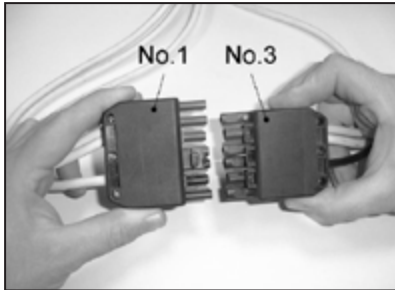

Figure 10-10: Connection of the two plugs
- Insert the 6-way plug into the 7-way plug. Refer to Figure 10-10. It is not possible to connect these two plugs incorrectly as they will only fit together one way. The feed pellet feed auger will now run continuously until the plug and socket is disconnected.